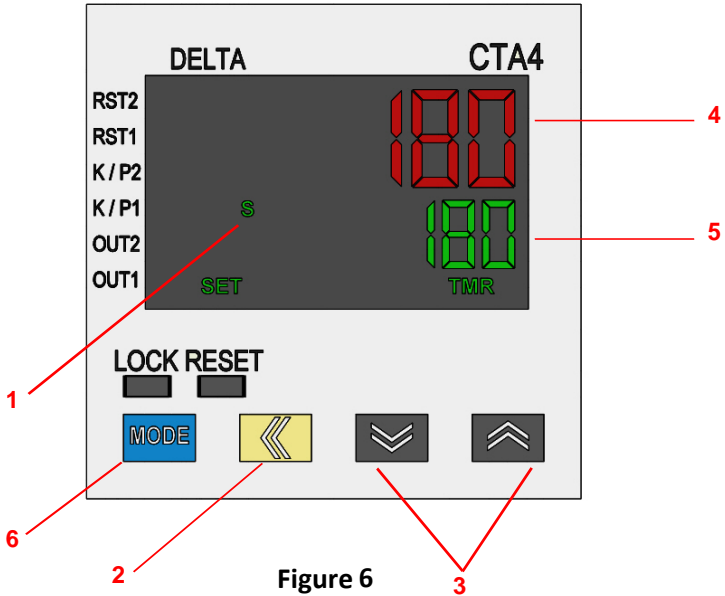

Figure 6
3. Press the yellow, left arrow button (Item 2, Figure 6) to enter the set mode. The first digit to the right column on the Set Value Display (Item 5, Figure 6) will begin to flash.
4. Press the UP or DOWN arrow buttons (Item 3, Figure 6) to set the first digit on the selected column.
7. Once desired set value time is showing on the display, press the blue MODE button (Item 6, Figure 6) to set the time.